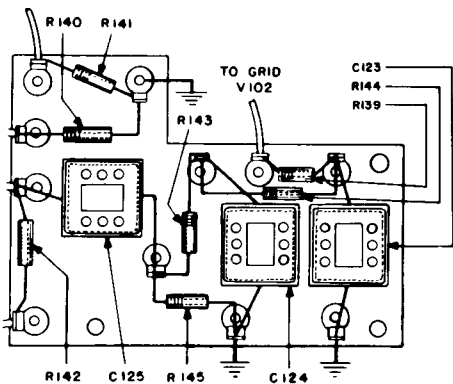

Figure 6-4. Capacitor-Resistor Assembly, E107
e. CAPACITOR-RESISTOR ASSEMBLY E107. - This appears at the upper center of the chassis, Figure 5-2 and again in detail in Figure 6-4. To remove it:-